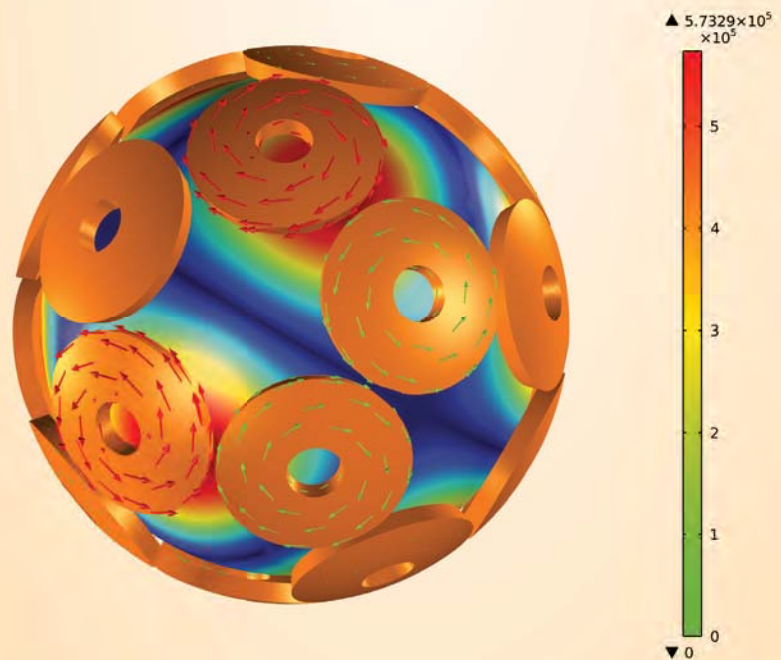

Fig. 2. Model geometry showing the coil distribution around the rotor.
Fig. 2 shows the geometry for the model and some results. A hot zone in the upper part of the vessel is clearly visible; this is due to the buoyancy effect generated by local temperature differences which are created by the heat of the dimerization re-
Fig. 2. Temperature (K) in a 3-dm3-vessel, shown in the left cross-section, after 21 s; note the hot zone building up in the upper section. The cross-section at the right shows the complex velocity field caused by free convection in the vessel.